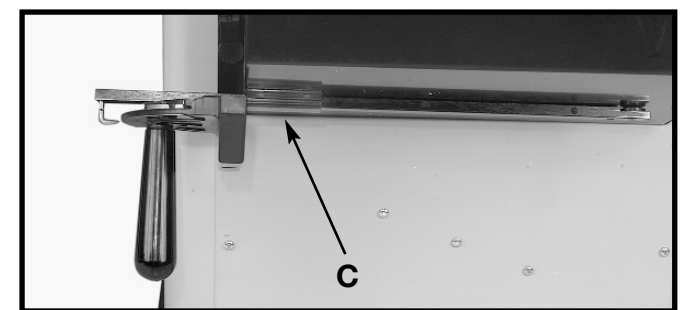

Fig. 28
Install miter gage holder (C) Fig. 28 underneath the motor cover on the right side of the saw using four self-tapping screws.